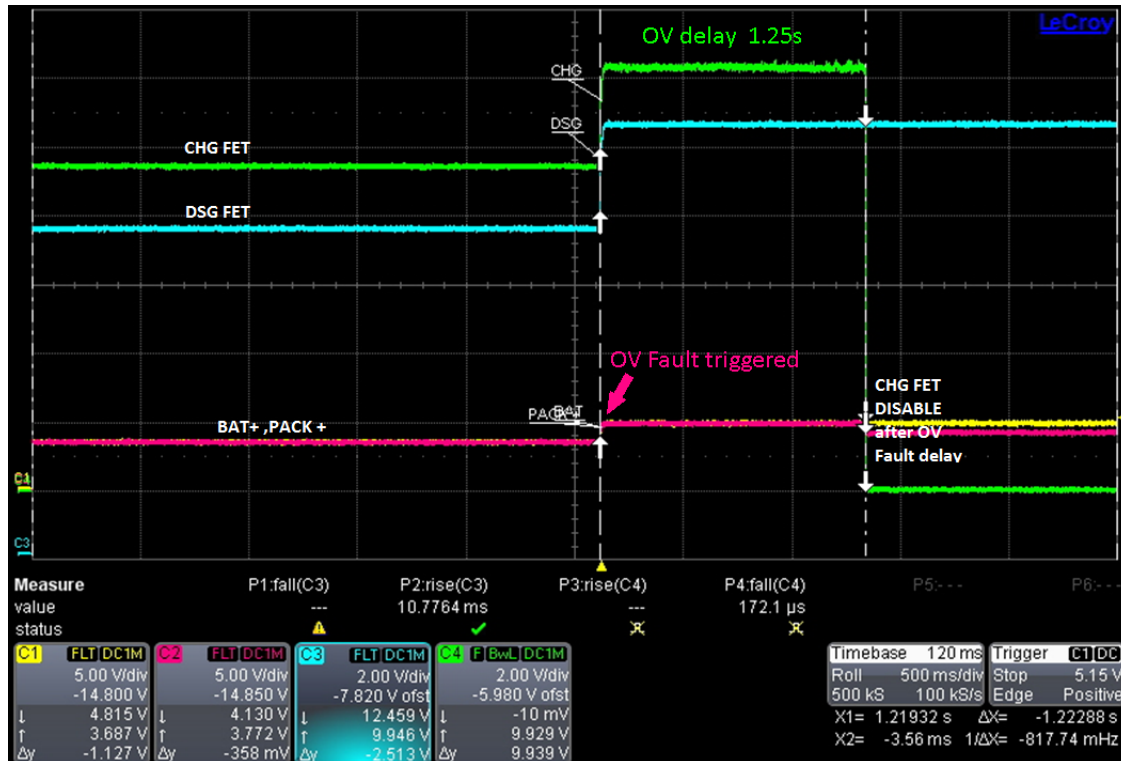

Figure 3. bq2980EVM-PWR883 Demonstration of Overvoltage
2. Observe the CHG FET being disabled after the OV fault delay. Refer to the EVM scope capture in Figure 3.